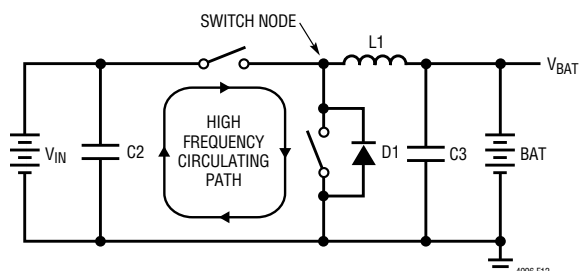

Figure 12. High Speed Switching Path
For maximum efficiency, the switch node rise and fall times should be minimized. To prevent magnetic and electrical field radiation and high frequency resonant problems, proper layout of the components connected to the IC is essential. (See Figure 12.) Here is a PCB layout priority list for proper layout. Layout the PCB using this specific order.
- For best current programming accuracy provide a Kelvin connection from  $R_{SENSE}$  to CSP and BAT. See Figure 12 as an example.